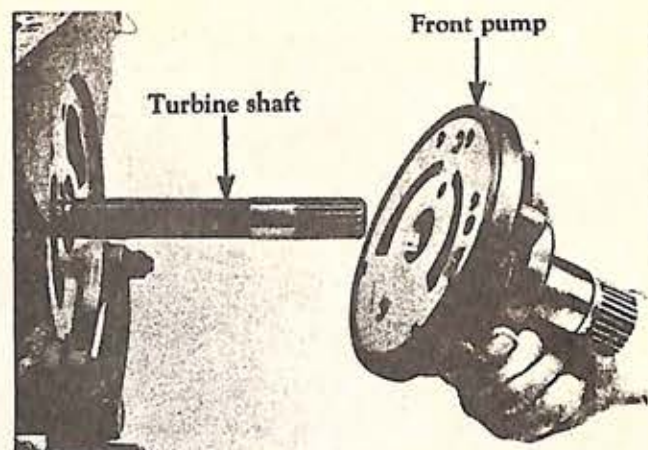

Fig. 52
1. Remove the remaining front pump attaching capscrews, then remove the front pump assembly and gasket (Fig. 52). **NOTE:** If necessary, tap the capscrew bosses with a soft hammer to loosen the pump from the case.